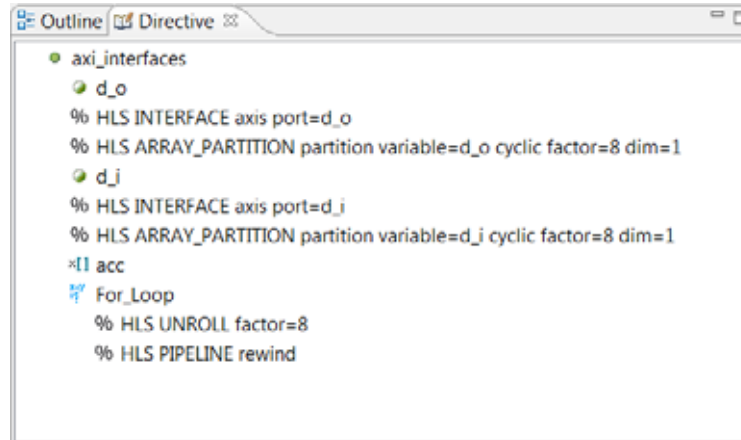

Figure 4-33: Directives Tab for Lab 4 Solution1
After performing the above steps, the Directives tab should be as shown in Figure 4-33. Be sure to check all options are correctly applied. If not, double-click the directive to re-open the **Directives Editor**.
7. In the performance section of the report, confirm that the for-loop processes one sample every clock cycle (Interval 1) with a latency of 3 (and max 4), and that the design has less area than solutions 2, 3, or 4 in Lab 3 (Figure 4-33).